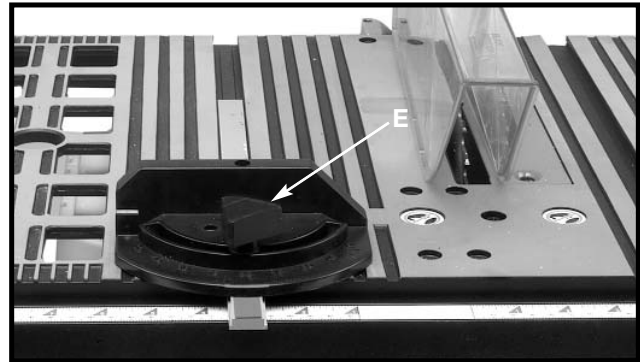

Fig. 34
To operate the miter gauge, loosen the lock knob (E) Fig. 34, and rotate the miter gauge to the desired angle.